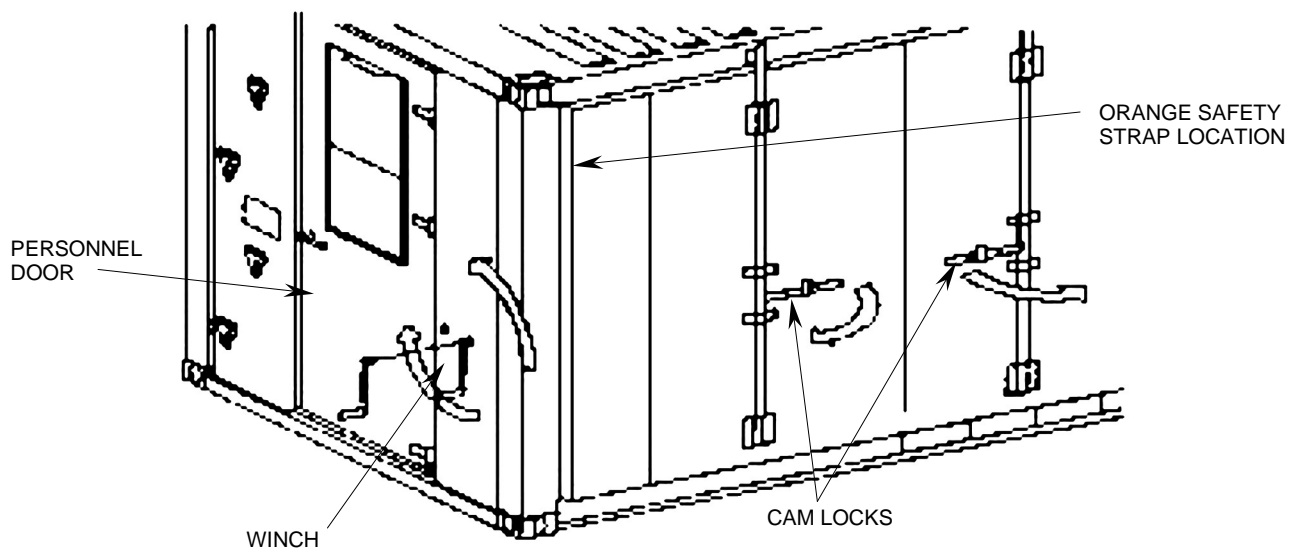

Figure 4. Shelter Expansion.
2. Verify that the orange safety strap is attached to the serving wing (the right side when viewed from the end containing the personnel door). Climb onto the roof of the container and attach the strap if it is not (if the CK is on the ground, it will not be necessary to climb onto the roof to attach the strap). Figure 4 shows where the safety strap is located on the serving wing. It is in the same location on the food preparation wing.
**CONTAINERIZED KITCHEN (CK)
4. Insert the winch handle into the right winch drive slot and crank clockwise until the cable is free of slack (the winch handle becomes harder to turn). See Figure 4.